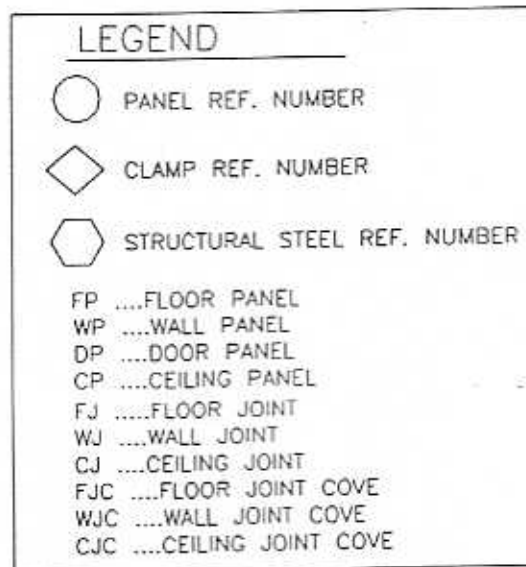

FIGURE 1: LEGEND
1. Standard floor, wall, and ceiling panels without notches or cutouts and identical in appearance, will be identified with a prefix or number, per the drawings as follows, see Figure 1: Legend :
2. All other panels such as prefabricated corners and trenches will be identified with a prefix or number, per the drawings, similarity as follows, see Figure 1: Legend :